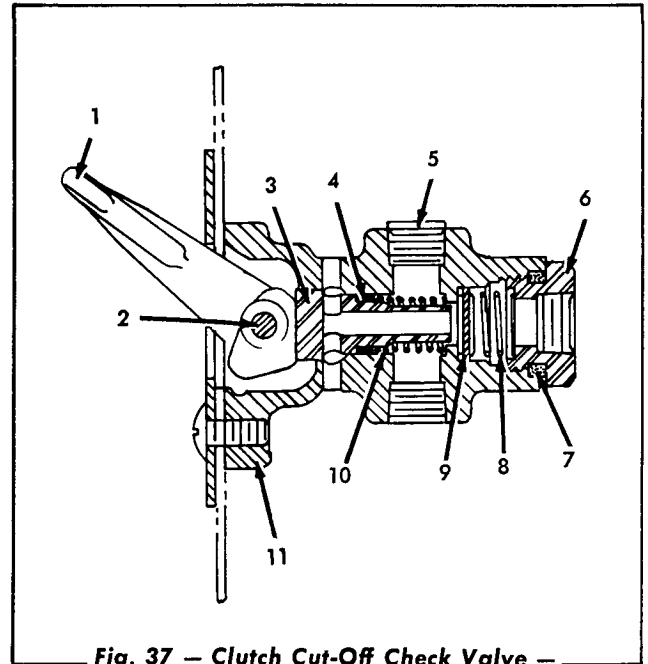

Fig. 37 — Clutch Cut-Off Check Valve —
3. Remove the pin (Fig. 37) that secures the lever to the valve body. Remove the lever. Remove the plunger, the plunger grommet, and the plunger return spring.